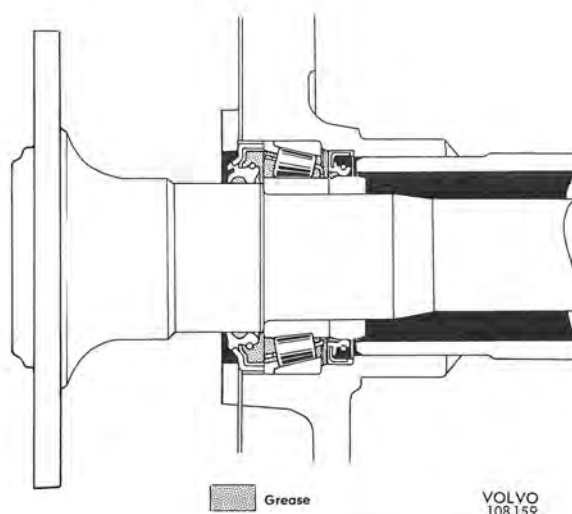

Fig. 4-136. Drive shaft journaling
The drive pinion is carried in taper roller bearings. The axial location of the drive pinion relative to the crown wheel is adjusted by means of shims under the outer race of the rear pinion bearings. Application of the pinion bearings is by means of shims under the front pinion bearing inner ring. The outer end of each drive shaft is journalled in a taper roller bearing. Bearing clearance is not adjustable but is determined by the construction of the bearing, see Fig. 4-136. There are oil seals on both sides of the drive shaft bearings.
Fit the bearing and lock ring. Turn the bearing correctly, see Fig. 4-136.
8. Pack the bearing with durable grease. Also fill the space between the sealing rings and between the sealing ring lips on the outer ring with grease, see Fig. 4-136. Then fit the drive shaft. Tighten the bolts for the thrust washer to a torque of 50 Nm (36 lbft). Fit the brake disc and brake caliper. Connect the brake line. Bleed and adjust the brakes, see Part 5.